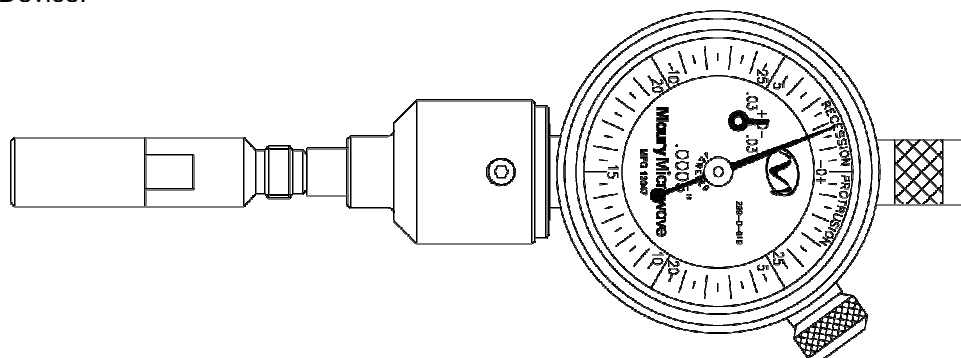

Figure 5. Gaging SMP Connectors
2. Align your A042A1 with the female (SMP) connector to be measured. Refer to **Figure 5**.
CAUTION: The small inner dial is a safety indicator to assure that the outer dial is reading within the correct revolution (**Figure 5**). A grossly out of spec. connector could indicate in spec. using the outer dial only.